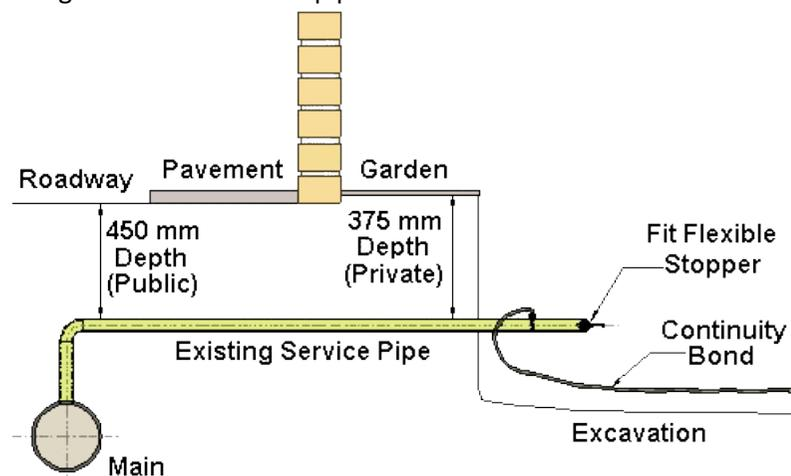

Figure 47 - Live service insertion, cut off service
- Temporarily seal live service pipe with flexible stopper (Figure 47 - Live service insertion, cut off service).